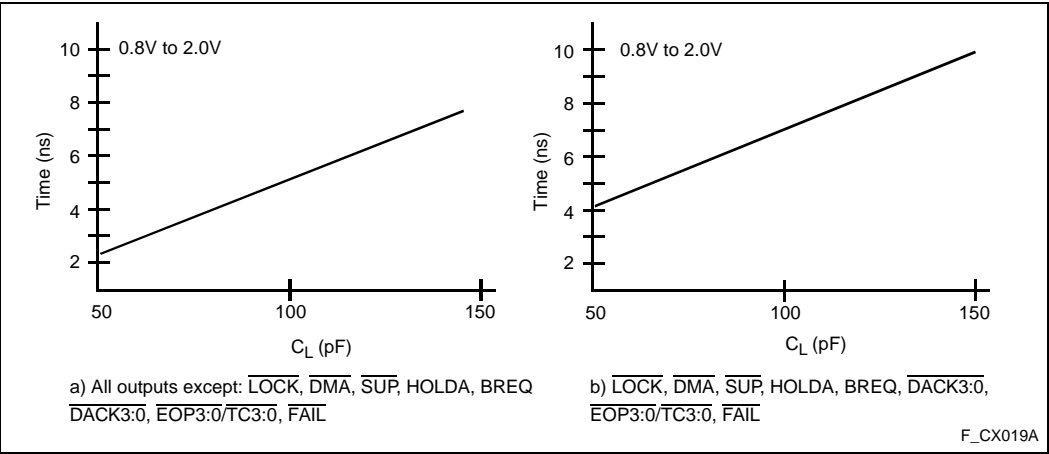

Figure 17. Rise and Fall Time Derating at Highest Operating Temperature and Minimum V_{CC}
- See Figure 17 for capacitive derating information for rise and fall times.